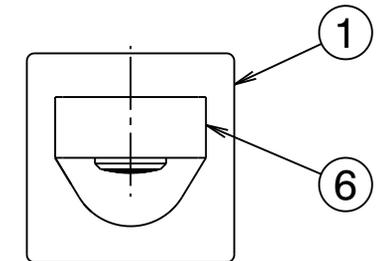

Fig. 2
- 2) Locate the cover plate (1) on the threaded nipple (2). Screw the spigot (3) onto the thread (2) using a 10mm allen key (5⁺) until the cover plate (1) is held securely against the wall/tile face & horizontally aligned (Fig.2). DO NOT OVERTIGHTEN. Apply suitable lubricant to 'O' Rings (4).
- 3) Fit wall outlet (6) onto the spigot (3), then carefully push it firmly against the cover plate while tightening grub screws (7) using the 2.5mm allen key (8) provided. Take care that the aerator insert (9) is pointing vertically downwards before tightening screws (7).